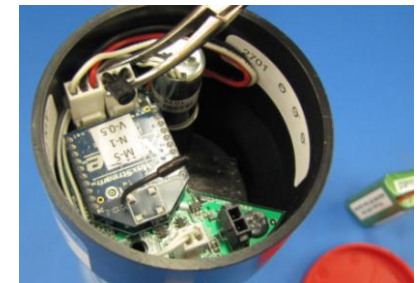

Figure 3
3. As depicted in Figure 3, remove the temperature sensor from the circuit board. Note: if your module is not equipped with a temperature sensor, skip this step.